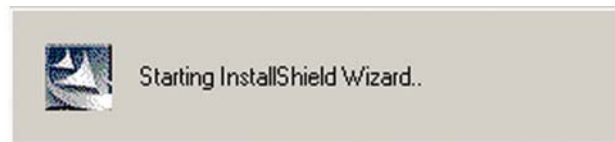

Figure 7-6: Audio Driver Install Shield Wizard Starting
- Step 2:** Once double clicking the **Setup** icon, the install shield wizard for the audio driver starts. See **Figure 7-6**.